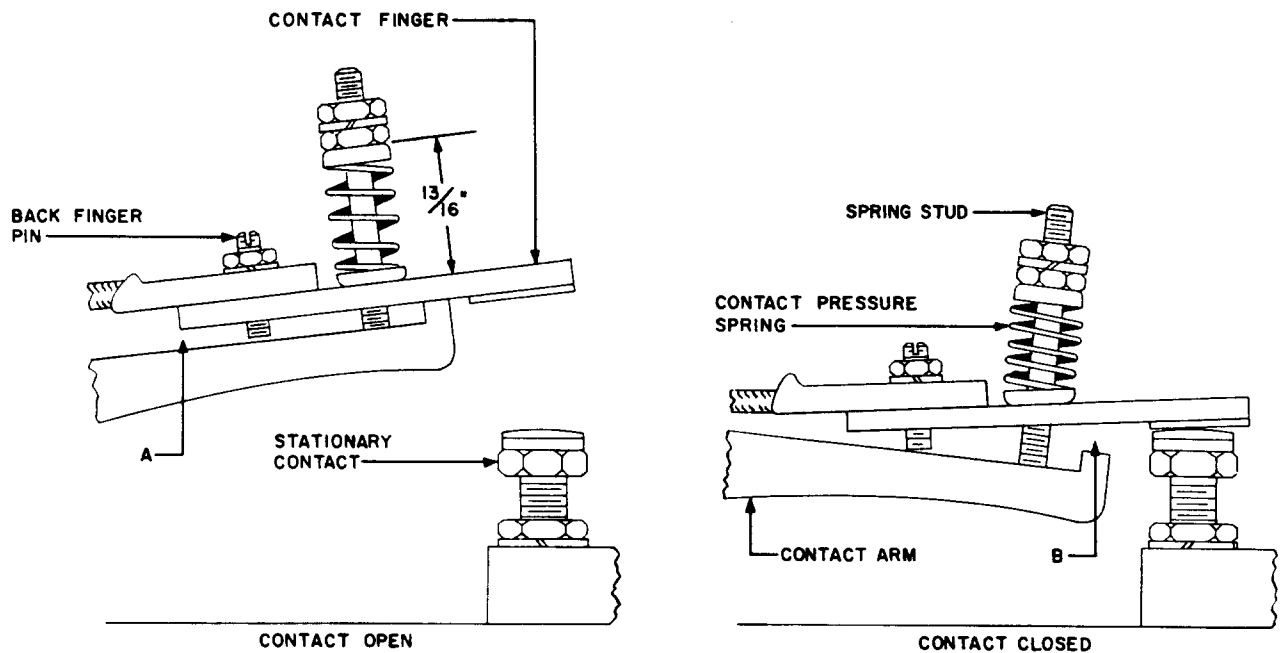

Fig. 5 — Contact Adjustment for Butt-Type Main Contacts — Bulletin 905, 907, and 908 Switches
(3) *Butt-Type Main Contacts — See Fig. 5:*